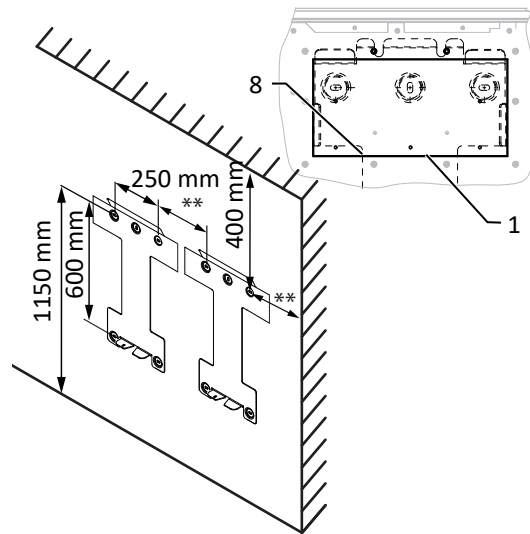

Fig. 14: Wall mounting
- Minimum clearances to be observed during installation: [See figure 14] [▶ Page 18]
2 Suspend the device in the mount using the recess on the rear of the device. ([See figure 14] [▶ Page 18]).